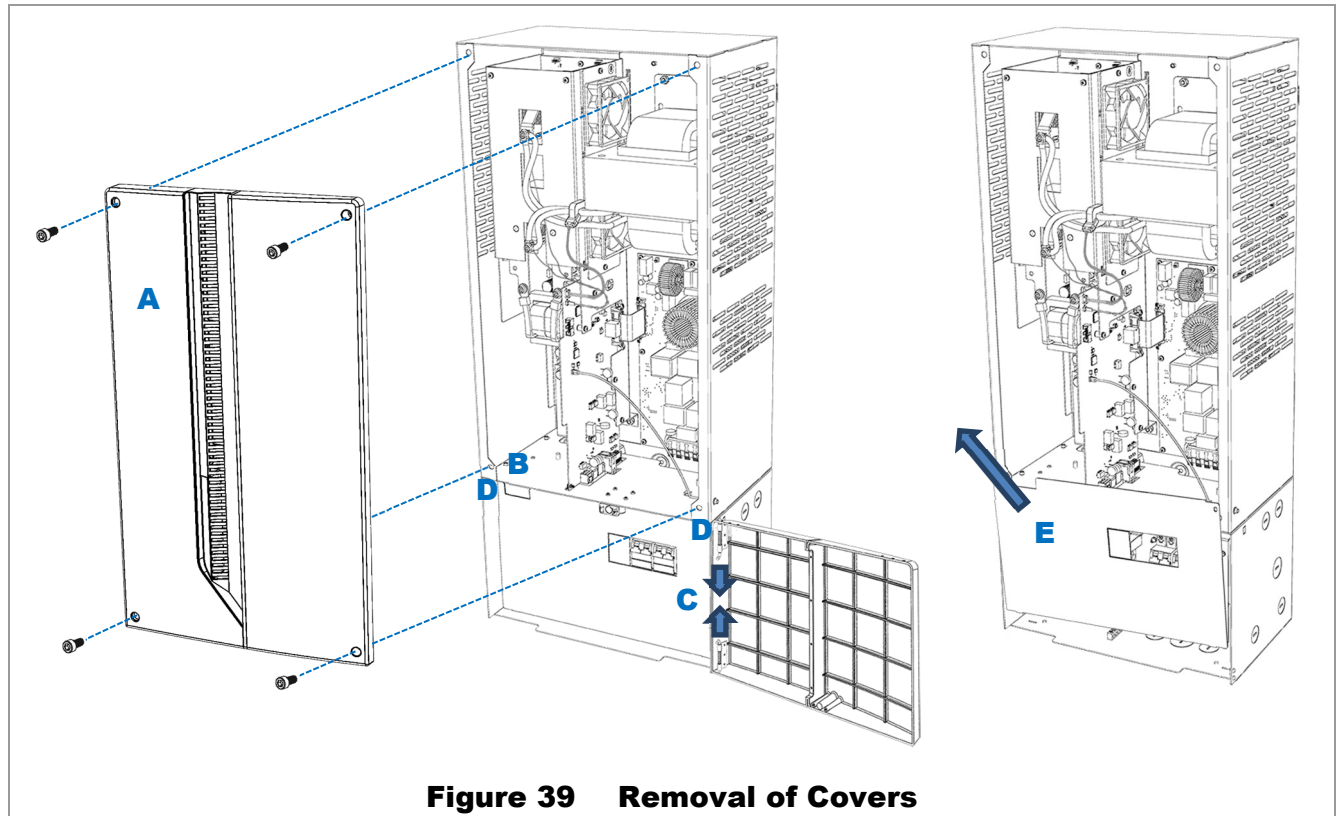

Figure 39 Removal of Covers
1. Using a 5 mm hex (Allen) wrench, remove 4 screws from the cover. Remove the cover. See **A** in Figure 39.